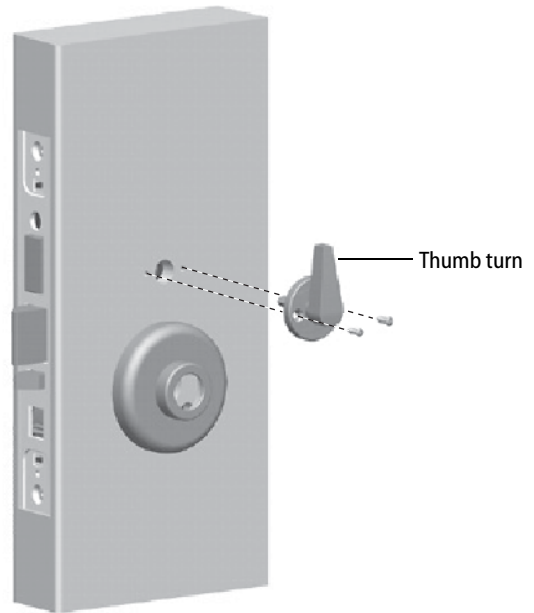

Figure 17 Installing the thumb turn or emergency access plate
- 2 Install the thumb turn or emergency access plate using the two screws provided (Figure 17).